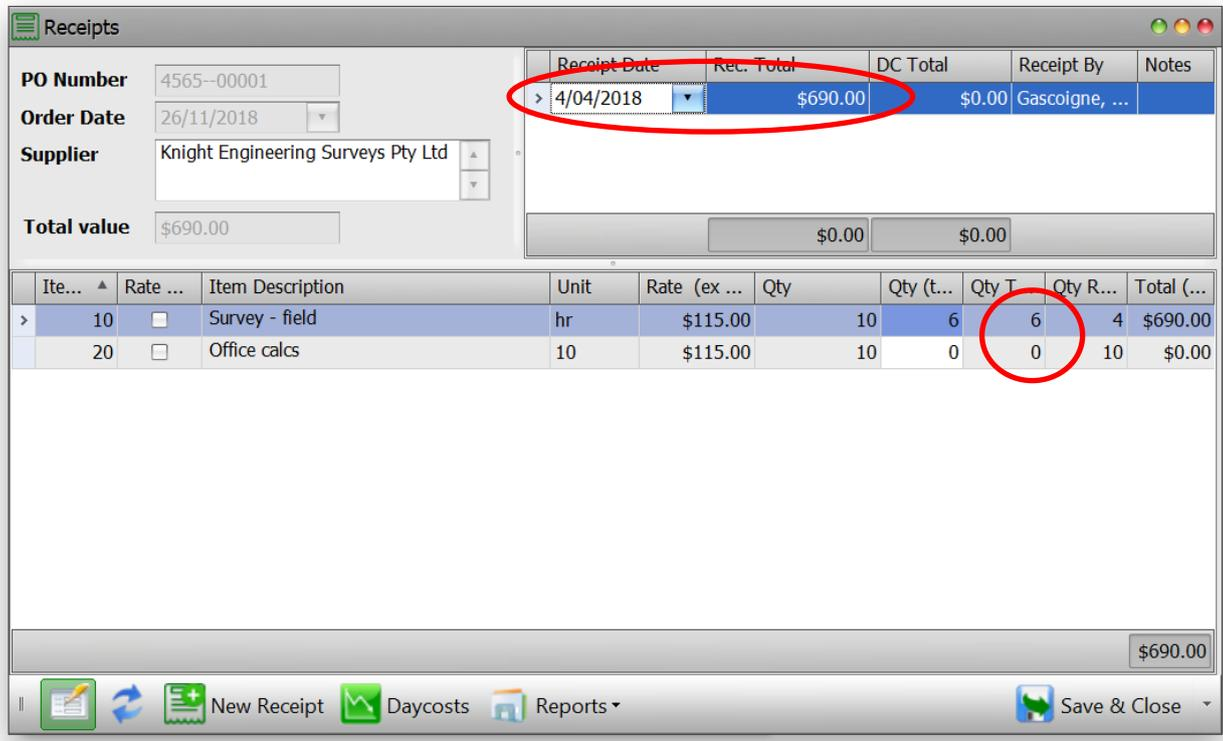

Figure 64 Receipt details entry
- You will now be taken to the Receipts screen. *Enable editing* and within the Receipt Details section of the screen enter 6 in the 'Qty (this)' cell for the field survey item and leave the office calcs item as 0. This indicates that on the 4th April, 6 of the 10 items regarding the field survey were 'received' while office calcs items are still outstanding. If you look at the Receipt summary section of the screen at the top, you will see that the total of the receipt comes to \$690 (Figure 64)